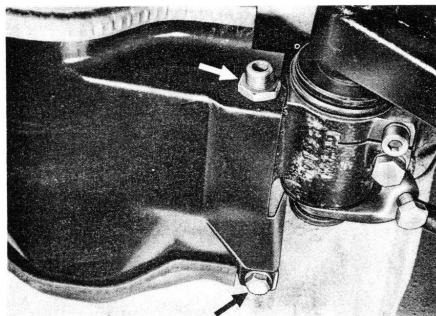

Fig. 69
3. Install crossmember reinforcing brace without binding. Torque hex nuts to 6,5 mkp (47 lb/ft), and hex bolts to 4,7 mkp (34 lb/ft). (see Fig. 69).